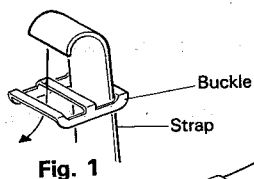

Fig. 1
- 1) Install the Buckle as shown in Figure 1.